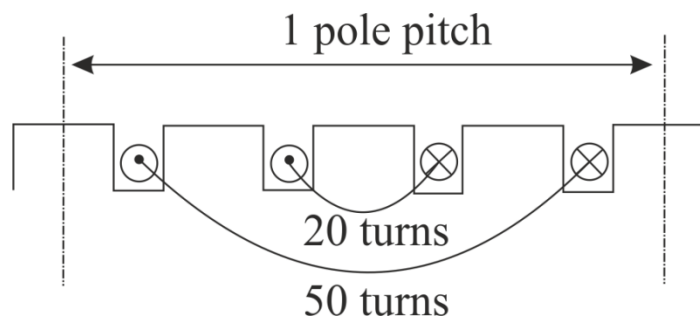

Figure 2
- c. Neglecting all the leakage flux, show that when a magnet is required to produce a specific flux density  $B_g$  in an air-gap of length  $L_g$  and an area  $A_g$ , it is possible to minimize the magnet volume required by operating it at its maximum energy product working point  $(BH)_{\max}$ . Explain why this design approach for the magnet is rarely adopted in practical electrical machines. (5)
- d. List the main factors that affect the iron losses of electrical machines, and explain how the influence of iron losses on high speed machines can be minimised. (4)
2. a. Derive general expressions for the winding pitch factor,  $K_p$ , and the distribution factor,  $K_d$ , for both the fundamental and the  $n^{\text{th}}$  harmonic EMF components. Based on the coil EMF vectors, in order to obtain a maximum winding factor, determine the coil connections for a 3-phase, 12-slot, 8-pole surface mounted permanent magnet machine with single layer windings. (8)
- b. Show that the winding skew factor can be derived using similar method as for the winding distribution factor. Explain the main advantages and disadvantages of using winding skew. (4)
- c. A concentric winding which is distributed in the slots over one pole pitch in a machine having evenly spaced slots, as shown in Figure 2. Calculate the winding factor for the fundamental EMF.